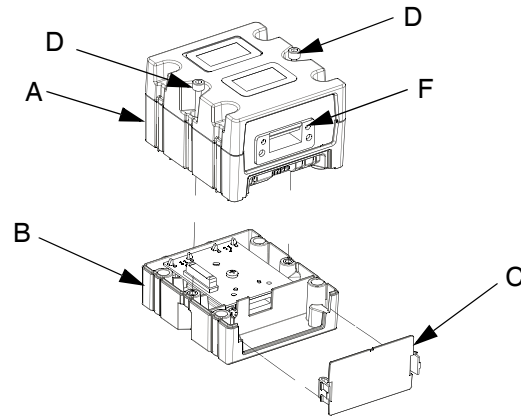

FIG. 2: CGM
7. Mount module (A) on the base (B) with two screws (D). See FIG. 2.
12. Use the map token (7) to install the data map. Refer to the Install or Update Data Map section of the Communications Gateway Module manual for instructions.
13. Attach the access cover (C). See FIG. 2.
15. Connect the fieldbus cable (customer supplied) to the fieldbus connector (F). See FIG. 2.